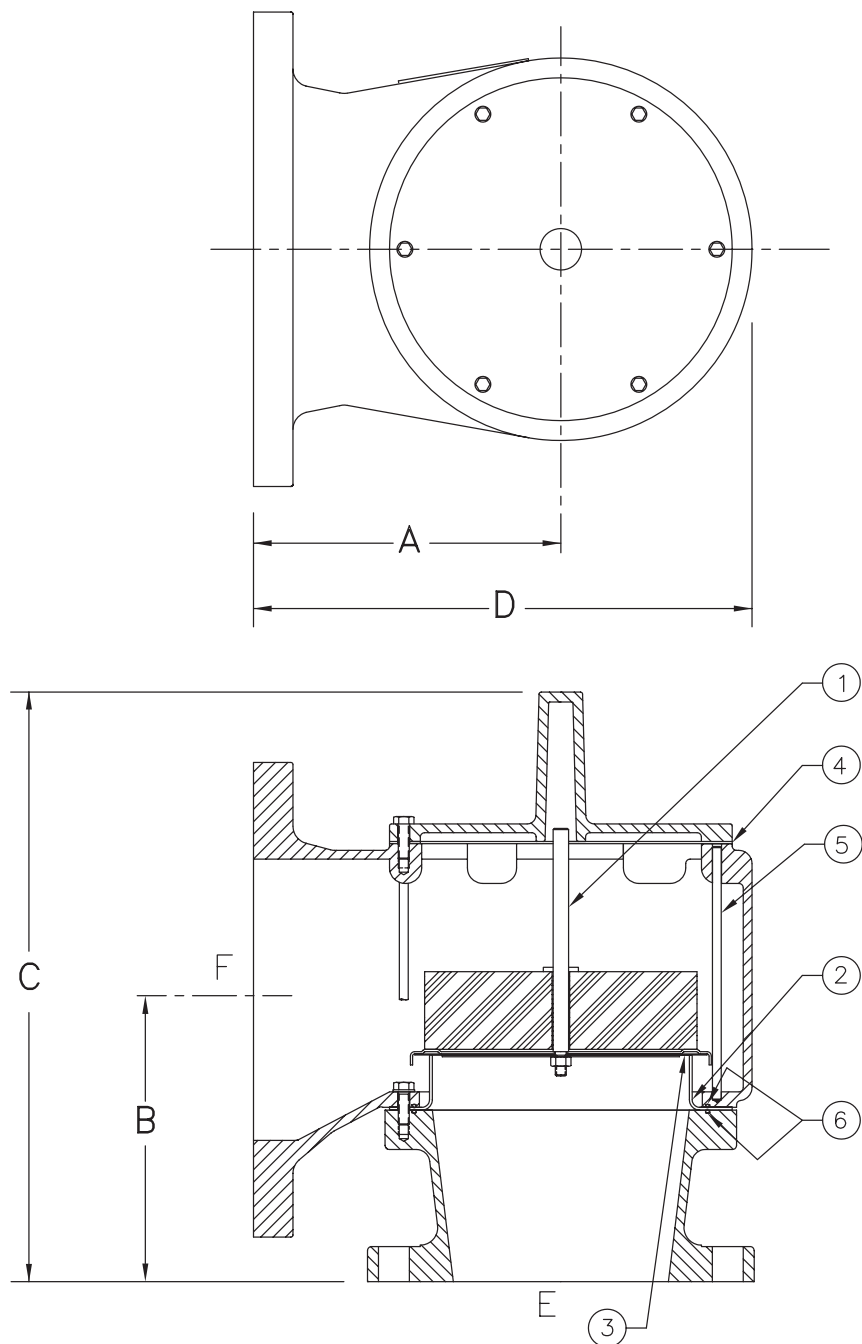

FIGURE 6. MODEL 3650B PRESSURE OR VACUUM RELIEF VALVE (LOW SETTING) DRILLING PER ANSI CLASS 125 F.F.
**TABLE 12 - REPLACEMENT PARTS MODEL 3650B (SEE FIG. 6 AND 7)**